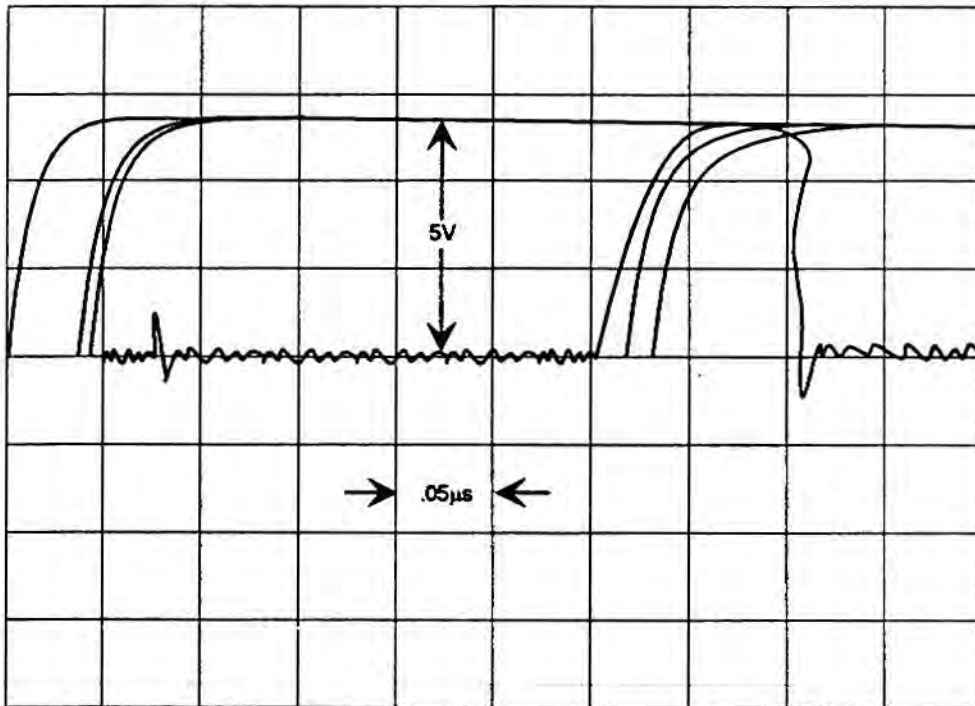

FIGURE 4-8. Typical Signal Trace for TP21
9. If EPROMs chip select is correct, check TP21 for RAMs (U36 and U37) chip select. Signal should be as shown in Figure 4-8. If chip select is not correct, troubleshoot Q1 and U9. Replace as necessary.